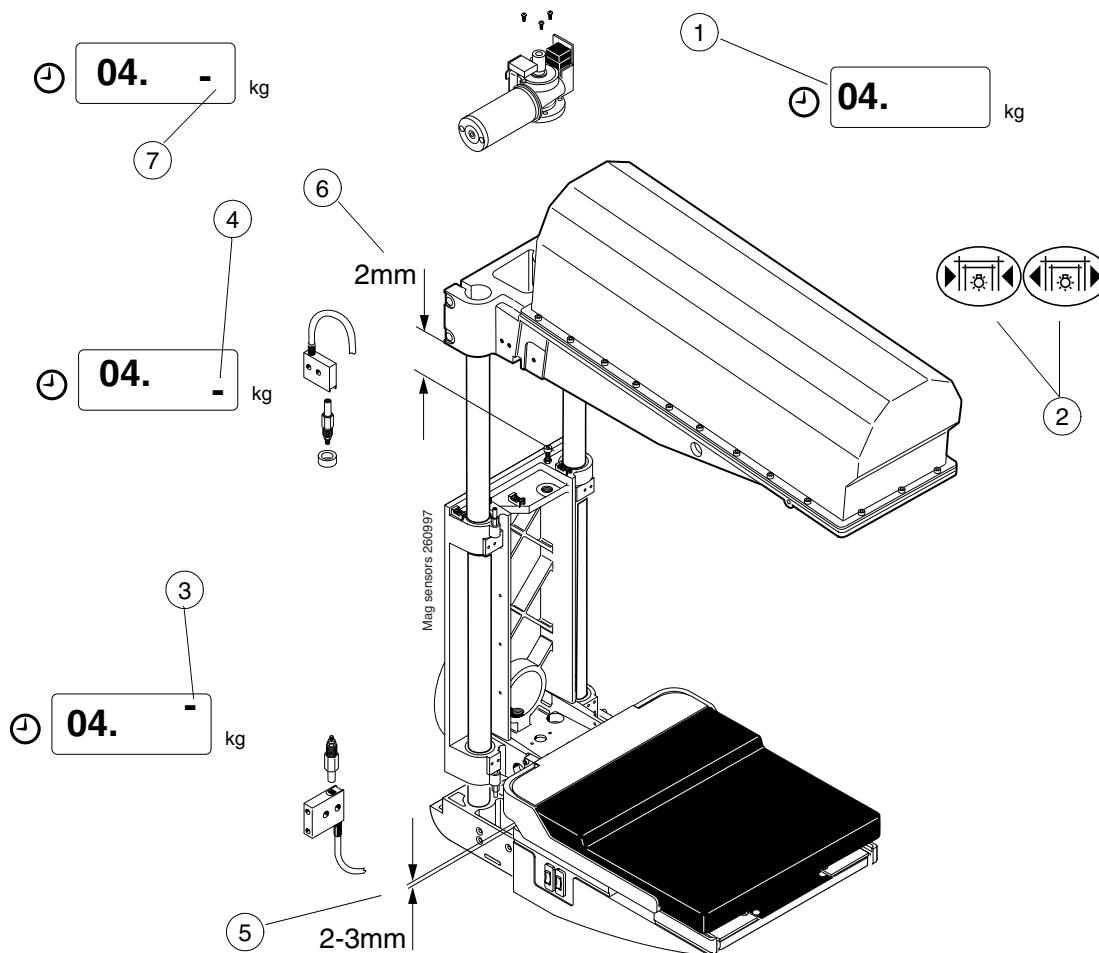

Figure F.26
- Enter the service mode and select the display of internal signals mode 04, see "SERVICE MODE FUNCTIONS SHORT-FORM" on page C-4. (Fig. F.26, 1).
- Drive the cassette table to the upper position (Mag-up) with field/light keys (Fig. F.26, 2) and check that the right upper signal (Fig. F.26, 3) on the display lights. When driving the cassette table the left middle signal (Fig. F.26, 7) on the display should blink.
- Drive the cassette table to the lower position (Mag-down) and check that the right lower signal (Fig. F.26, 4) on the display lights.
- Drive the cassette table to Mag-up position, the space between frame side and table guide should be 2-3 mm (Fig. F.26, 5).
- Check that the space between the mechanical limit and the tubehead is at least 2 mm when the cassette table is in the Mag-down position (Fig. F.26, 6).